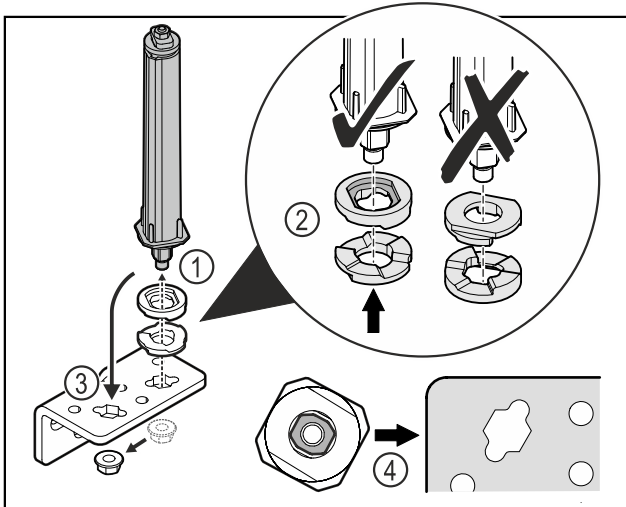

Fig. 40
- ▶ Loosen the nut and remove the door closing system Fig. 40 (1).
- ▶ Observe the correct alignment of the height adjustment washers Fig. 40 (2).
- ▶ Put the door closing system in the hinge fix in place with the nut Fig. 40 (3).
- ▶ Observe the correct alignment of the door closing system when doing so Fig. 40 (4).